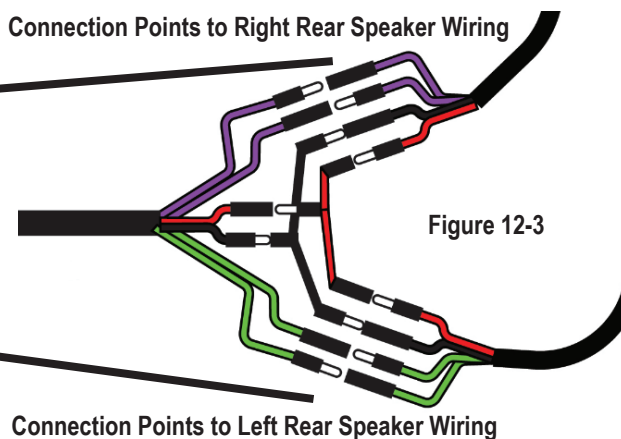

Figure 12-3
**NOTE** – On a four seat RZR (4P RZR) you will need to include the 4P jumper to extend the rear speaker harness, past the rear seats and then to the rear pod area. See Figure 12-3 for connection.